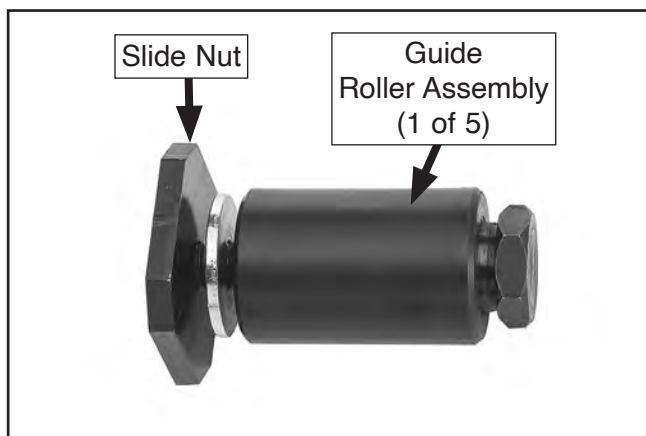

Figure 24. Guide roller assembly and slide nut (1 of 5).
8. Remove slide nut from each of (5) guide roller assemblies (see **Figure 24**).